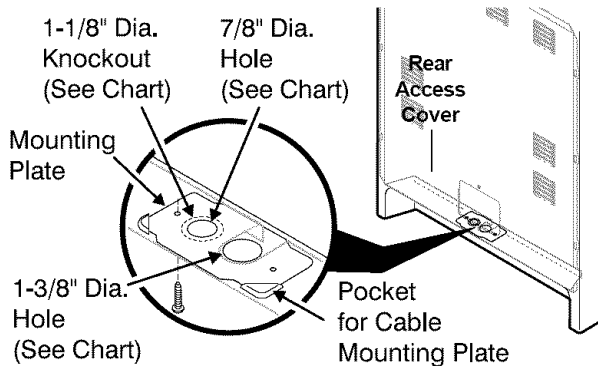

Fig. 9
See Range Connection Opening Size Chart (Figs. 9 & 10) for cord kit ampere rating information. Terminals on end of wires must be either closed loop or open-end spade lugs with upturned ends.
The Rear Access Cover must be removed (Fig 9). To remove, loosen center screw (one screw) and remove cover. The terminal block will then be accessible.
NOTE: Range is shipped from factory with 1-3/8" dia. hole as shown. To use either 7/8" dia. hole or 1-1/8" dia. knockouts refer to Fig. 9.
1. Follow the manufacturer's installation instructions supplied with the strain relief and install (Also see Figs. 9, 10 & 11).
5. Make sure all screws are tightened securely and replace the rear access cover (See Fig. 9).
3. Make sure all connections are tightened securely and replace the rear access cover (See Fig. 9).
5. **(3 & 4 - Wire Permanent Connections)** Make sure all connections are tightened securely and replace the rear access cover (See Fig. 9).